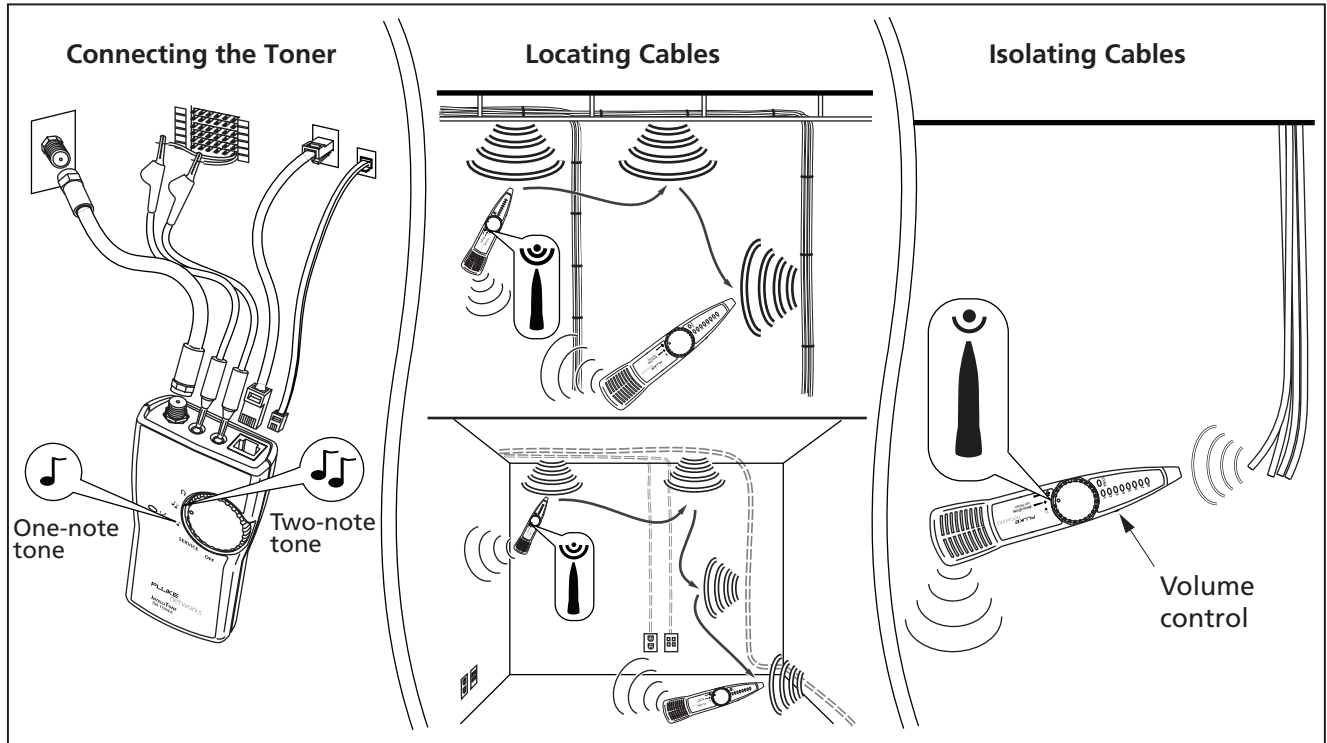

Figure 1. Locating and Isolating Cables
1. Connect the IT100 toner to a jack or punch-down block as shown in Figure 1.